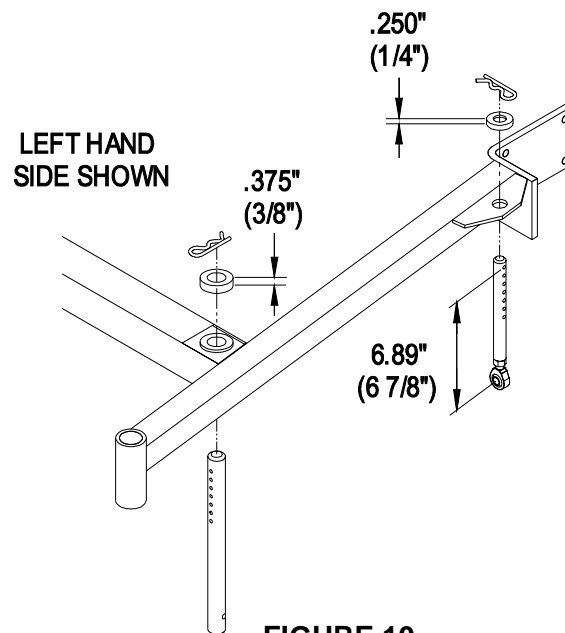

FIGURE 10
1. The front and rear hairpins are in the same holes with the proper spacers under the hair pins (See Figure 10).
3. The length of the rear deck support link assemblies are set to 6.89" (approximately 6 7/8") from the center of the balljoint to the center of the furthest hole (See Figure 10).